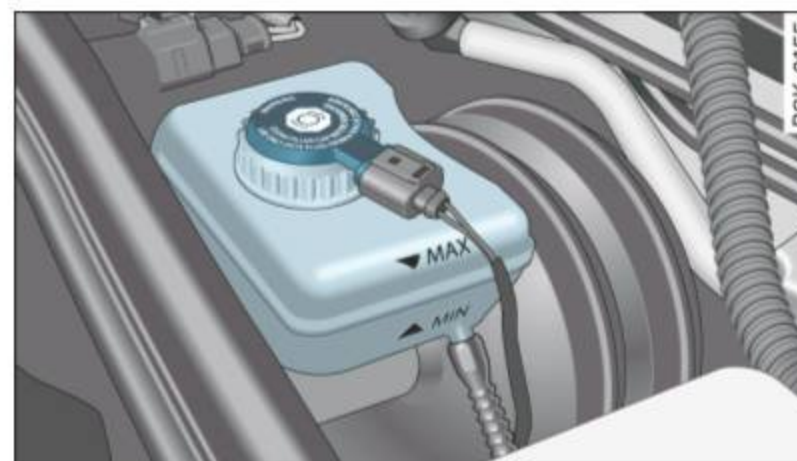

Fig. 207 Engine compartment: Brake fluid reservoir
- Read the brake fluid level from the brake fluid reservoir ⇒ fig. 207. The brake fluid level must be between the "MIN" and "MAX" markings.